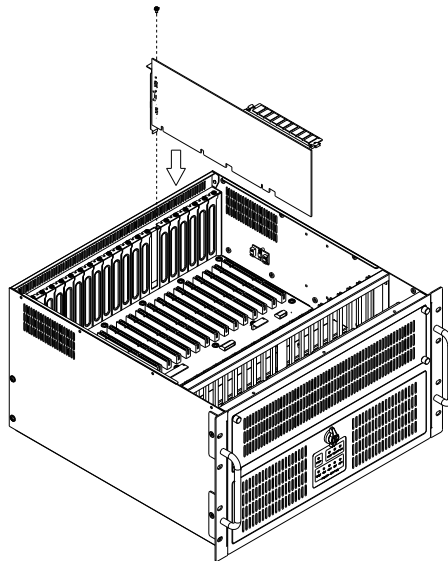

Figure 2.3 CPU card/full-length add-on card installation
2. Insert the CPU card with CPU, CPU cooler, RAM, and necessary cables installed. Insert the add-on card vertically into the selected slot (see Figure 2.3). For CPU cards or full-length cards, ensure that the card bracket is correctly installed and the card edge is inserted into the plastic guiding fillister. Affix the card to the top of the I/O bracket using a screw.